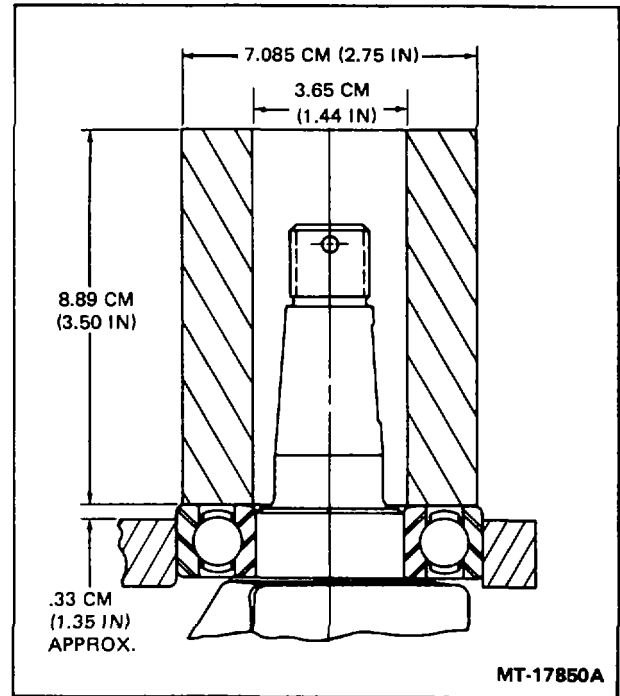

Figure 8 - Crankshaft Bearing Adapter
4. Place crankcase-crankshaft-bearing assembly in an arbor press, supporting crankcase adjacent to rear bearing. Use an adapter (shown in Figure 8) and press crankshaft rear bearing assembly from crankcase and out through rear bore.
1. Position the crankcase in an arbor press supporting the crankcase on the rear end cap surface. Install the front bearing in the crankcase. Press the bearing into the crankcase so it extends outside the crankcase about .3929 cms (.135 in.) (Figure 8). Do not apply pressure to the inner race only.